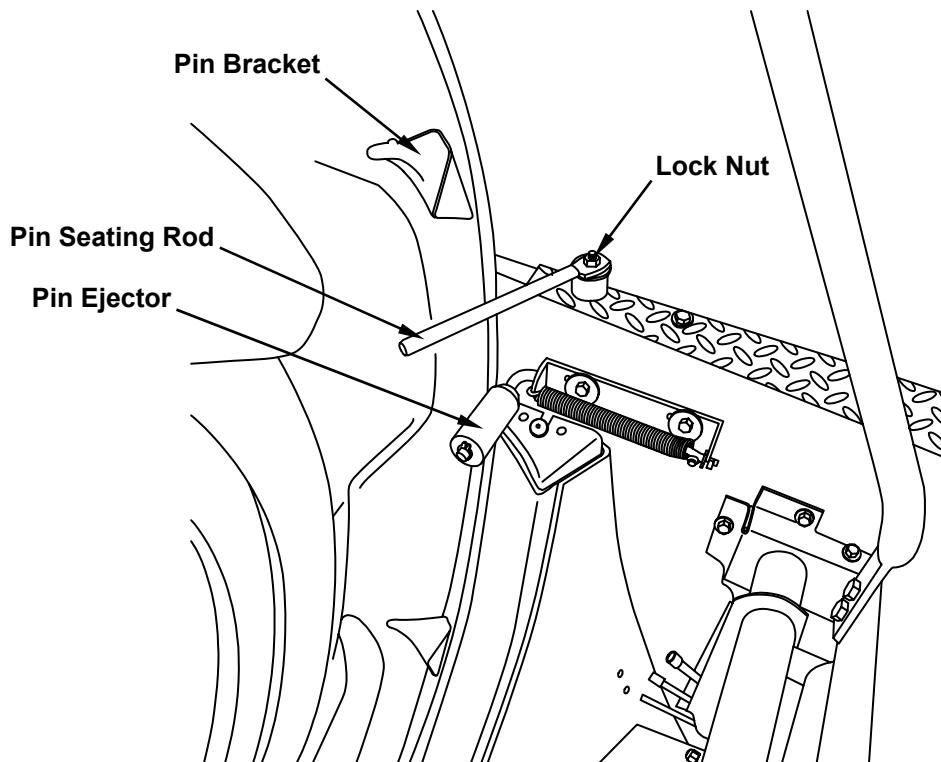

Figure 4.2-37
- Loosen the lock nut and position the pin seating rod (Figure 4.2-37) so that it clears the pin bracket by approximately 1/4 inch. Tighten the lock nut.